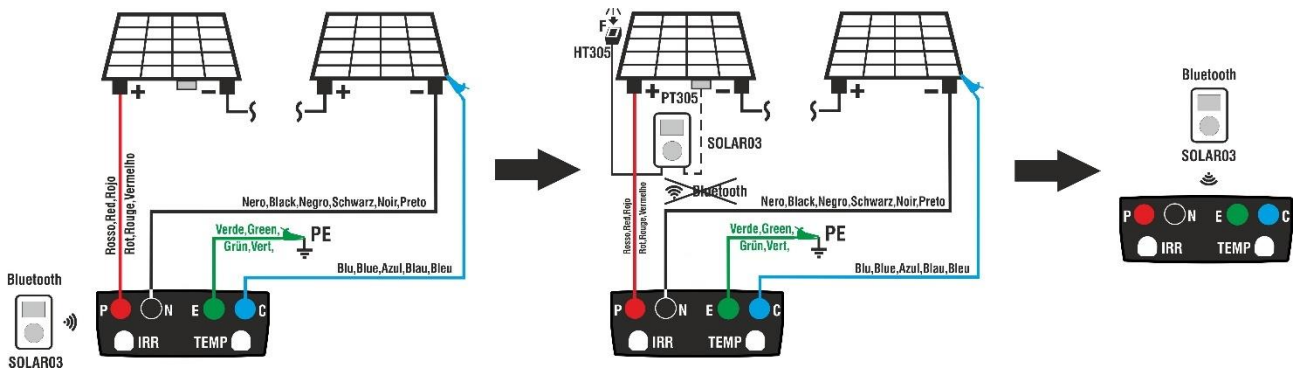
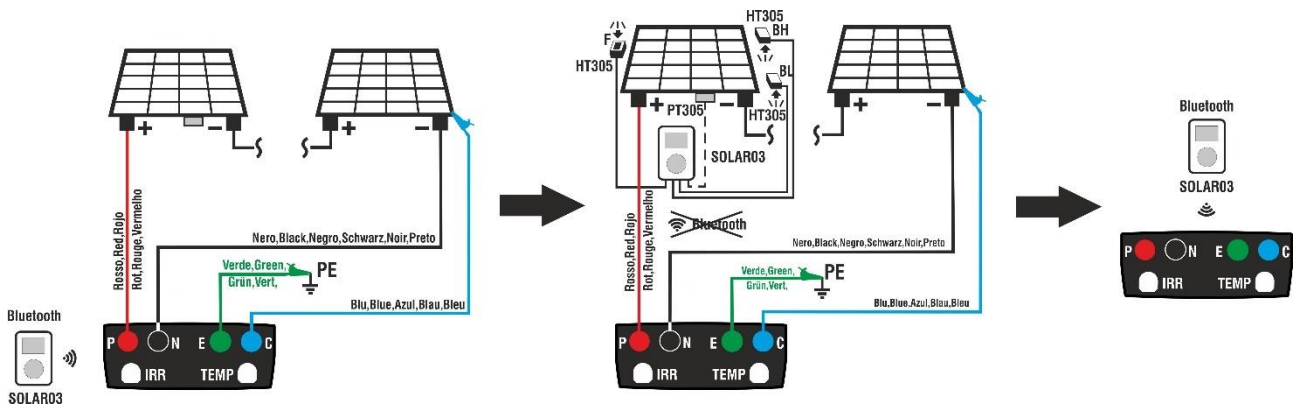

Fig. 14: Connection of SOLAR03 in synchronous recording on Monofacial PV modules
Fig. 15: Connection of SOLAR03 in synchronous recording on Bifacial PV modules
2. Connect the instrument to the PV module/string being tested and to the main earth node of the system, and to the metal masses connected to earth as shown in Fig. 14 (Mono-facial modules) or Fig. 15 (Bifacial modules) In detail:
4. Move the SOLAR03 remote unit close to the instrument as shown in Fig. 14 or Fig. 15 – left side part
7. Move the remote unit close the modules and connect the irradiance/temperature probes as shown Fig. 14 or Fig. 15 – middle side part. **Since recording has already been activated on remote unit SOLAR03, it is not necessary to maintain the Bluetooth connection anymore.** Maintaining the connection (if possible) will only allow to immediately obtain the outcome of the test without waiting for the measuring campaign to be completed.